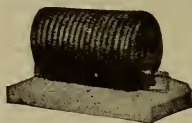

Fig. 56. Low Voltage Choke Coil.
*Answer.* For low voltage they are simple coils of insulated wire mounted on a slate bases as shown in Fig. 56.